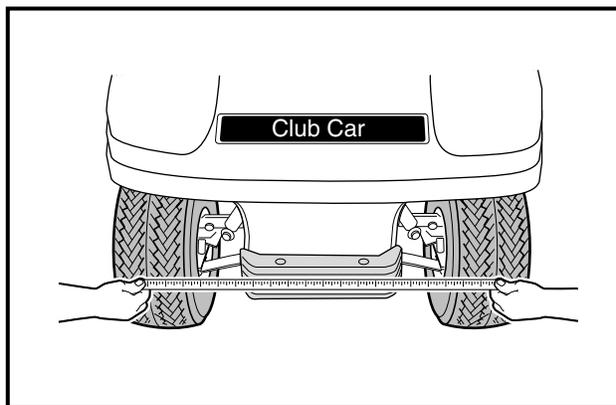

Figure 7-18 Check Toe-In
3. Measure the distance between the marks on the rear-facing surfaces of the tires, and then roll the vehicle **forward** one and one-half wheel revolutions until the marks appear on the forward facing surfaces of the tires at about the same height from the floor (**Figure 7-18, Page 7-15**).
4. Measure the distance between the marks on the forward-facing surfaces of the tires (**Figure 7-18, Page 7-15**). See following **NOTE**.